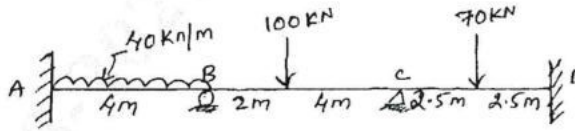

Fig. Q1
- 1 Analyze the continuous beam shown in Fig. Q1 by slope deflection method. Draw BMD and Elastic curve. (16 Marks)